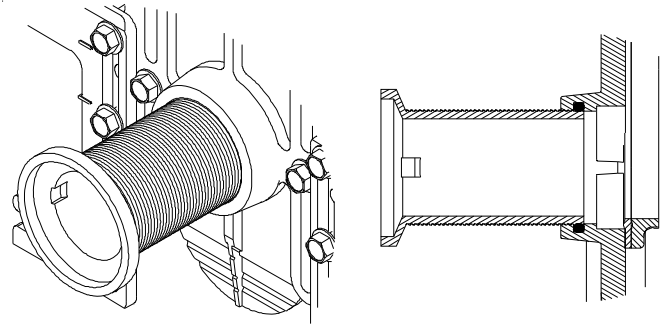

Fig. 12
- a. Standard, -CS, and -CC Couplings - Thread the coupling into the faceplate by hand until it engages the o-ring and begins to resist. Using a coupling wrench (Z1200-CPLGWRNCH-3 purchased separately), continue to turn the coupling into the o-ring to create a water-tight seal. See Fig. 12
- b. EZ-Set™ Coupling - Thread the coupling into the faceplate by hand until it engages the o-ring and begins to resist. Using a strap or pipe wrench, continue to turn the coupling into the o-ring to create a water-tight seal. Ensure the protective sleeve is flush with the test cap. See Fig. 12 & 12b